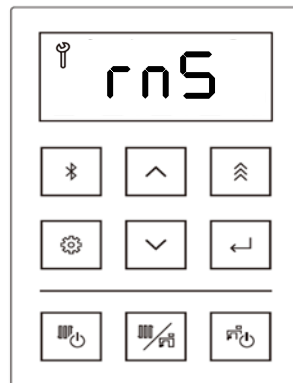

Figure 130
10. After 60 minutes flushing time completes, display shows “rnS” (rinsing) (Figure 130) and beeping sound is observed.